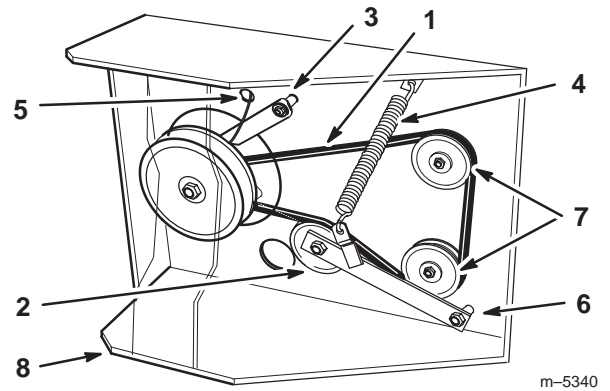

Figure 61
4. Remove clutch retainer from the engine deck (Fig. 61).
5. Unhook tension spring from side of frame (Fig. 61).
8. Torque pivot bolt to 35-40 ft. lb. (47-54 N.m). Install tension spring between idler arm and frame bracket (Fig. 61).
9. Install clutch retainer to the engine deck (Fig. 61).